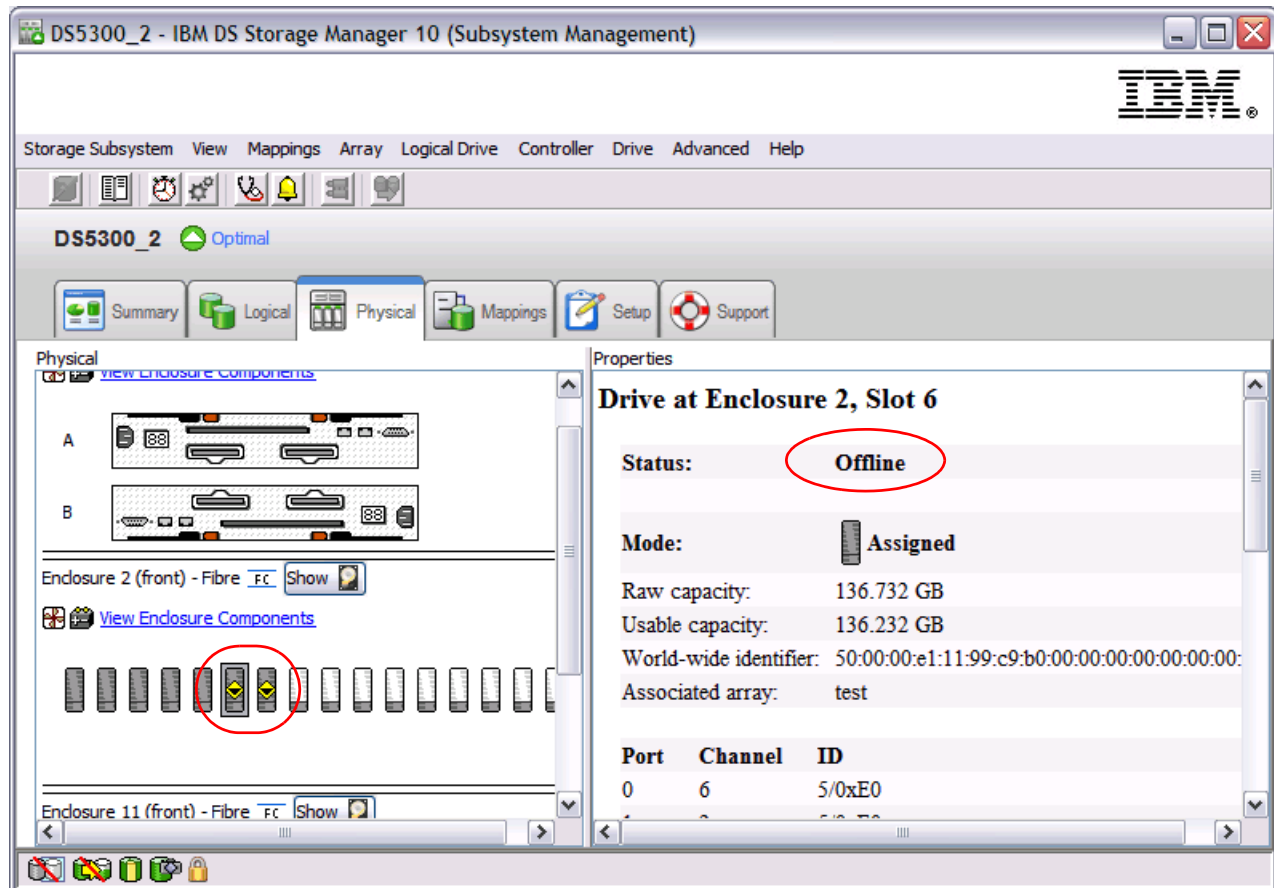

Figure 5-49 Array exported - Disks offline
- Check also that the disks of the exported array are in an offline status, as shown in Figure 5-49 on page 341.